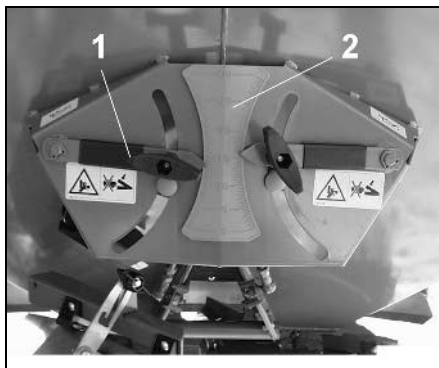

Fig. 47
- For border spreading swivel back the shutter position of the setting lever (Fig. 47/1) on the left hand implement side for two scale lines on the scale (Fig. 47/2).